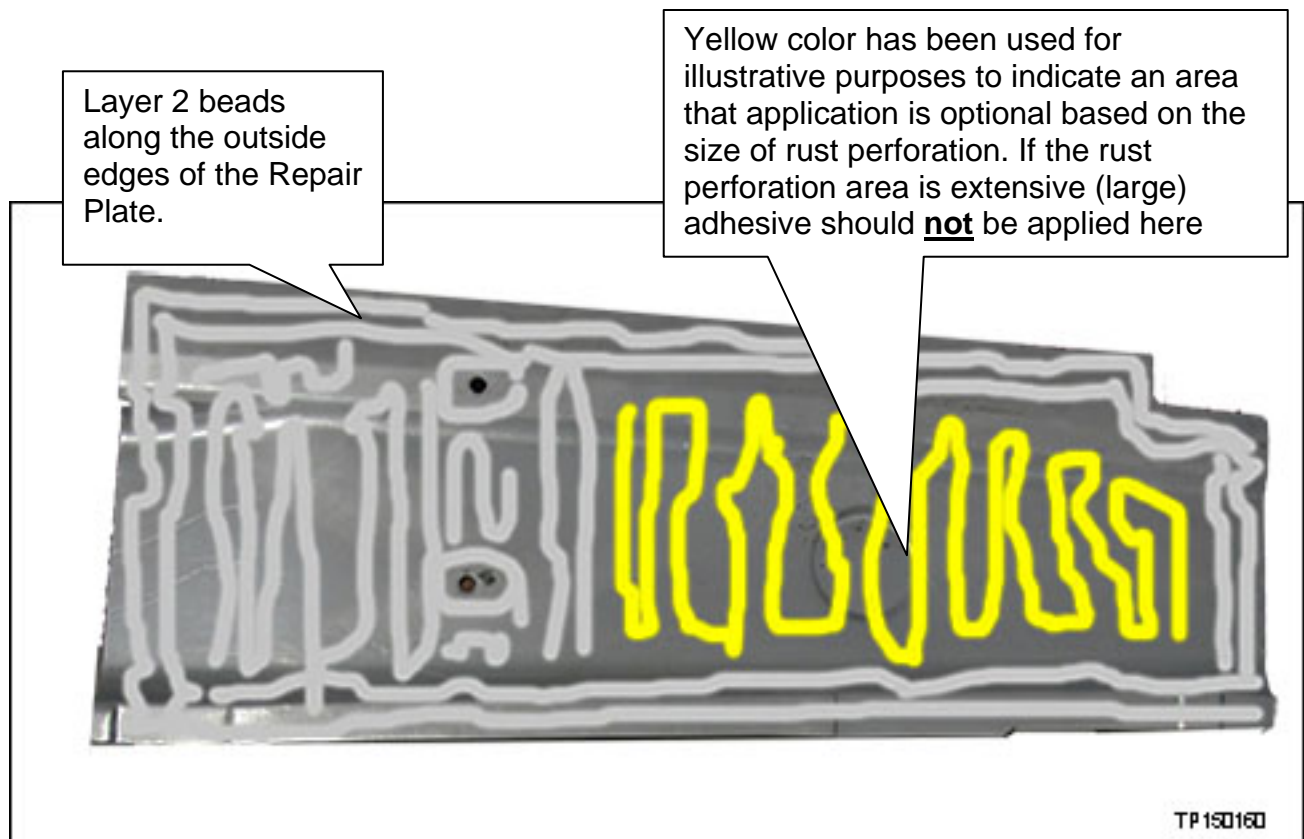

Figure 7
13. Liberally apply Lord Fusor® 108B to the back side of the Repair Plate as shown in Figure 7.